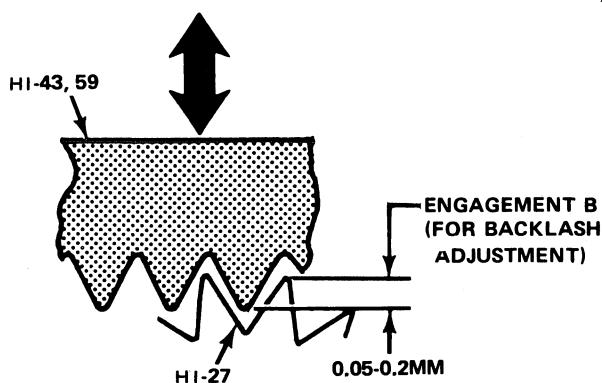

Figure 5-6. BACKLASH ADJUSTMENT, BEVEL GEAR (HI-43, 59)
When performing the next two steps, adjust one set of gears for proper backlash, then move ribbon reversing rod (HI-92) in opposite direction (to engage gears) and adjust the other set of gears (HI-27, 43) or (HI-27, 59), repeating steps B1 through B2. (See Figure 5-6)
2. Adjust bevel gear up or down on ribbon spool shaft (HI-38, 57) to obtain a vertical adjustment (engagement B) of 0.05 to 0.2 millimeters (0.002-0.008-in.) between the teeth of the opposing gears (HI-27) as they mesh (See Figure 5-6). Tighten allen-head screws on bevel gear (HI-43, 59).